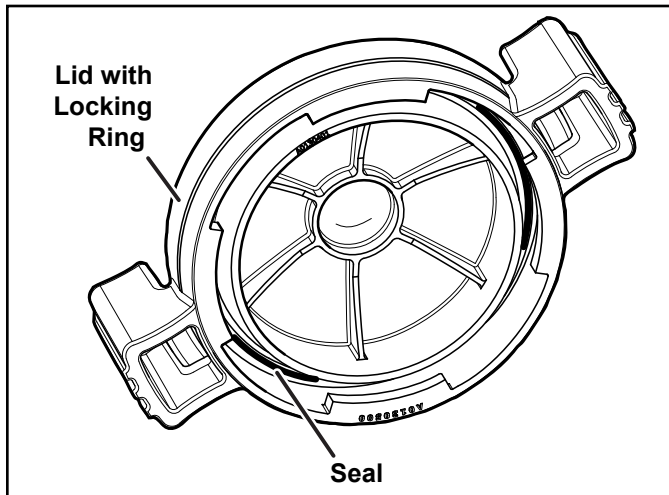

Figure 15. O-ring in Lid Assembly
4. Following the markings on the locking ring, turn the ring counter-clockwise until the 'START' markings align with the ports. See Figures 15 and 16.